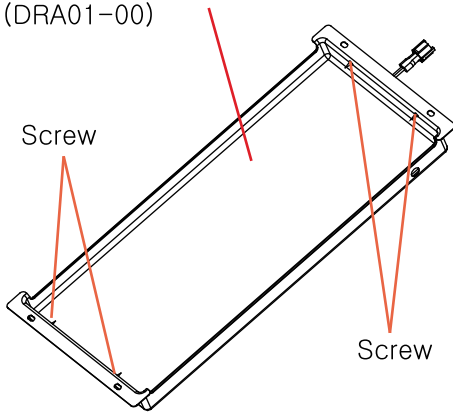

Fig 8-34
2. Unbolt the 4 screws clamping the two cases together. (Fig 8-34)